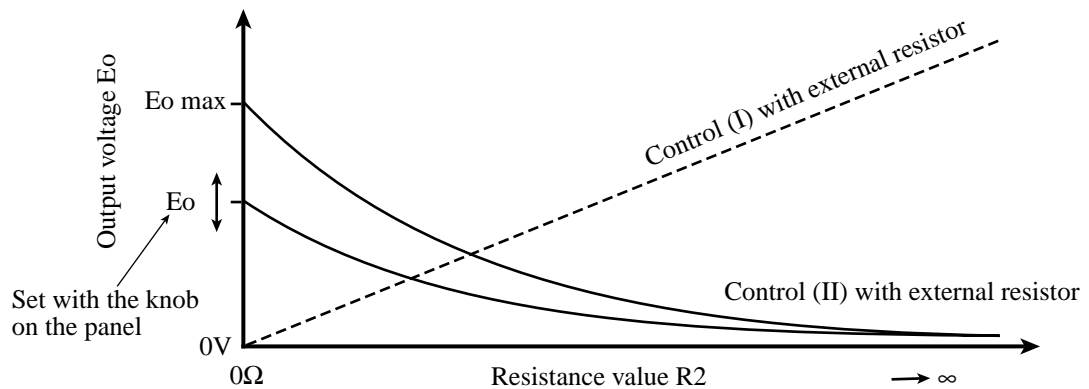

Fig. 4-4 Control (I) and control (II) with external resistor
4.2.2 Output voltage control (II) with external resistor
- The output voltage E_o and resistance value R_2 are inversely proportional, as shown in Fig. 4-4. If the circuit opens when switching the resistor or due to an accident, the resistance value become ∞ (infinite) and output becomes zero.